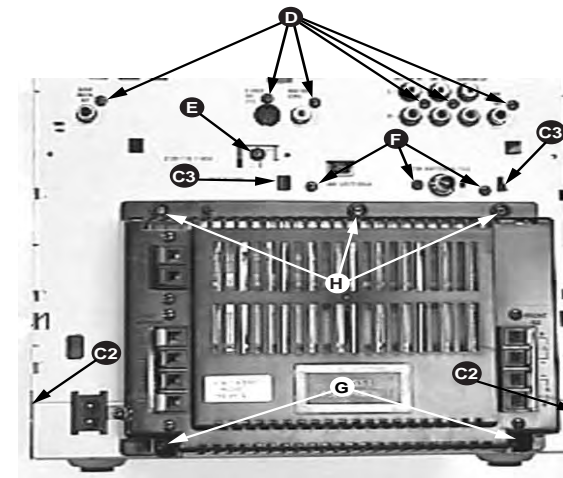

Figure 14
- e) Loosen 3 screws F and 2 catches C3 to remove the Tuner Module (pos 257 & 1100) as shown in figure 14
- f) Loosen 3 screws H, 2 screws G and releasing 2 catches C2 (see figure 14), it is also possible to remove the Plate Rear (pos 234) and Tuner Module together by skipping step e).
- Loosen 2 screws G on the Rear as shown in figure 14.
- Release the 2 catches C2 on both sides of the Rear Panel (see figure 14), pull the complete Rear Panel assembly backwards slightly and lift it out of the Plate Bottom (pos 236).